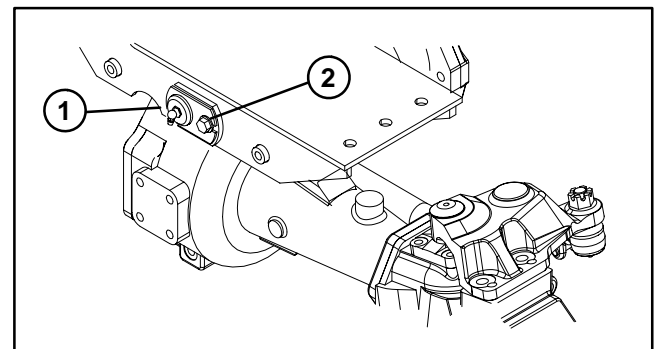

Figure 11
11. Remove lock nut and washer from pivot pin that attaches rear axle to rear frame mount. Remove washer head screw that secures flange of pivot pin to frame mount (Fig. 11).
2. Install axle pivot pin to secure axle to rear frame mount. Install washer and lock nut onto pivot pin. Lock nut should be tightened enough to allow pivot pin to rotate (70 ft-lb (94 N-m) maximum). Secure pivot pin to frame mount with washer head screw (Fig. 11).